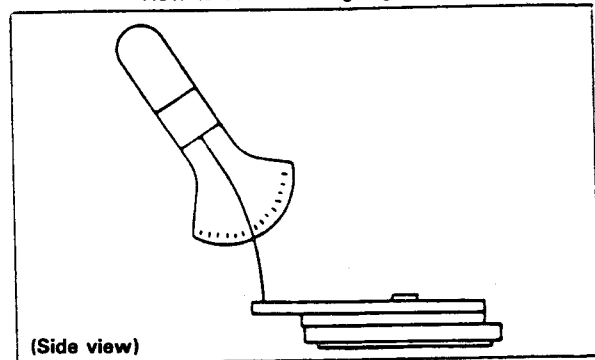

Figure 1-10.
2. Place the reel idler in its center position as shown in Fig. 1-10.
3. Using a tension gauge, push the reel idler in the direction of arrow \rightarrow (A), so that the reel idler moves away from the relay idler.
4. Release the pressure gradually in the direction of arrow \rightarrow (B), so that the reel idler touches the relay idler again. Check that the reading of the tension gauge is within 105 to 145 g.cm.